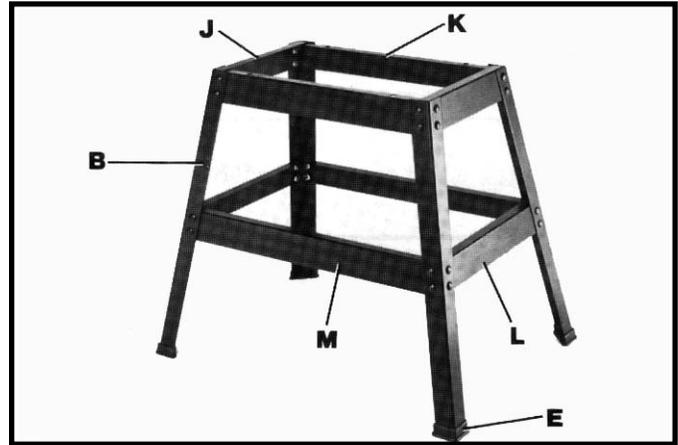

Fig. 3
1. Assemble the stand, as shown in Fig. 3, using the 32 carriage bolts, flat washers and nuts supplied. The two 12-3/4" long upper braces (J); 21-1/2" long upper braces (K); 17" long lower braces (L) and 25-3/4" long lower braces (M) should be fastened to the four 26-1/4" long legs (B). **IMPORTANT:** The top lips of the upper braces (J) should be on top of the top lips of upper braces (K).
2. Assemble the four rubber feet (E) Fig. 3, to bottom of each leg (B) as shown.